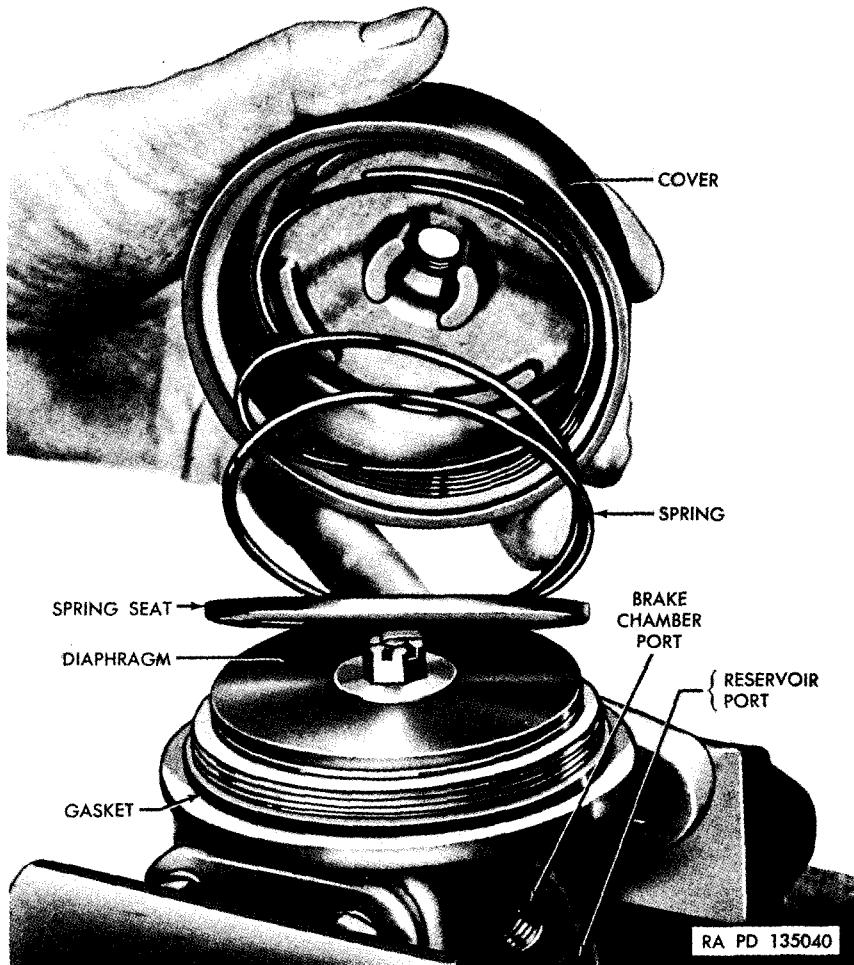

Figure 118. Removing cover.
a. Unscrew cover and lift out spring and spring seat (figs. 118 and 126). Remove cover gasket (figs. 118 and 126).